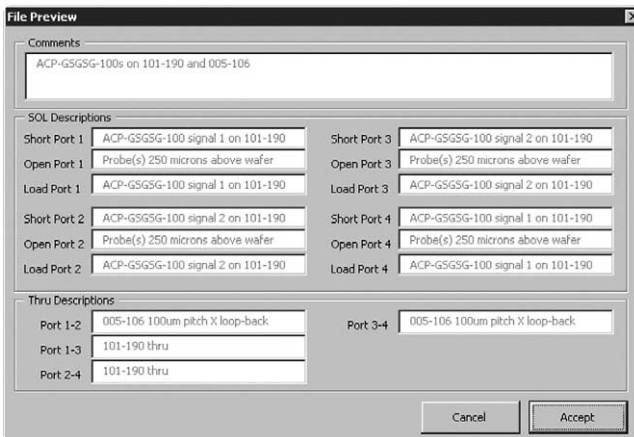

Figure 8. Preview menu of calibration setup file
2. After clicking the **[Open]** button, you will be given a preview of the comments and descriptions contained in the calibration setup file that you have selected (Figure 8).